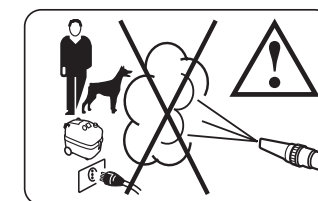

Fig. 3
- The appliance delivers steam at very high temperatures. DO NOT under any circumstances point the steam jet in the direction of people, animals or electric appliances (Fig. 3). In particular, protect your eyes and hands when operating the machine by wearing goggles and gloves as required by accident prevention regulations.